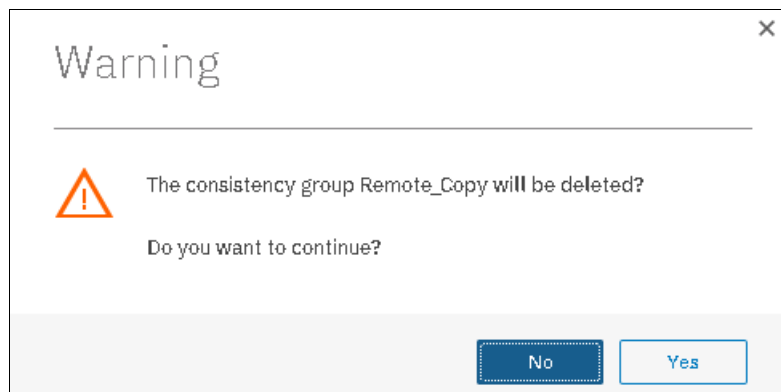

Figure 10-126 Warning Remote Copy deletion
3. The warning window that is shown in Figure 10-126 opens. Click **Yes**.